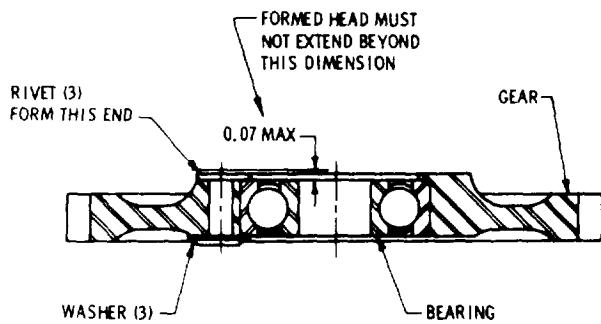

Figure 4C-35. Idler Gear and Bearing Assembly
2. Install the outer race of the front roller bearing, with the thick end down, so that it rests against the end of the ground sleeve (see Figure 4C-19 on page 4C-20).